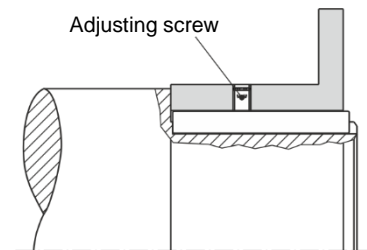

Fig. 4
- ❑ For axial securement, please provide an additional adjusting screw (ISO 4029 - 45H) as an alternative to a press cover (see Figs. 4 and 5).